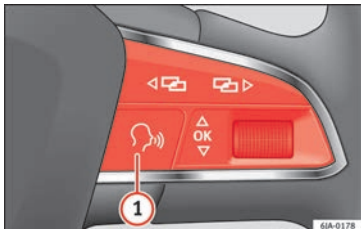

Fig. 33 Multifunction steering wheel: voice control.
Briefly press button  **1**  **Fig. 33** on the multifunction steering wheel.
If the system is playing a message, end the message by briefly pressing button  **1**  **Fig. 33** on the multifunction steering wheel.
- briefly press button  **1**  **Fig. 33** on the multifunction steering wheel.